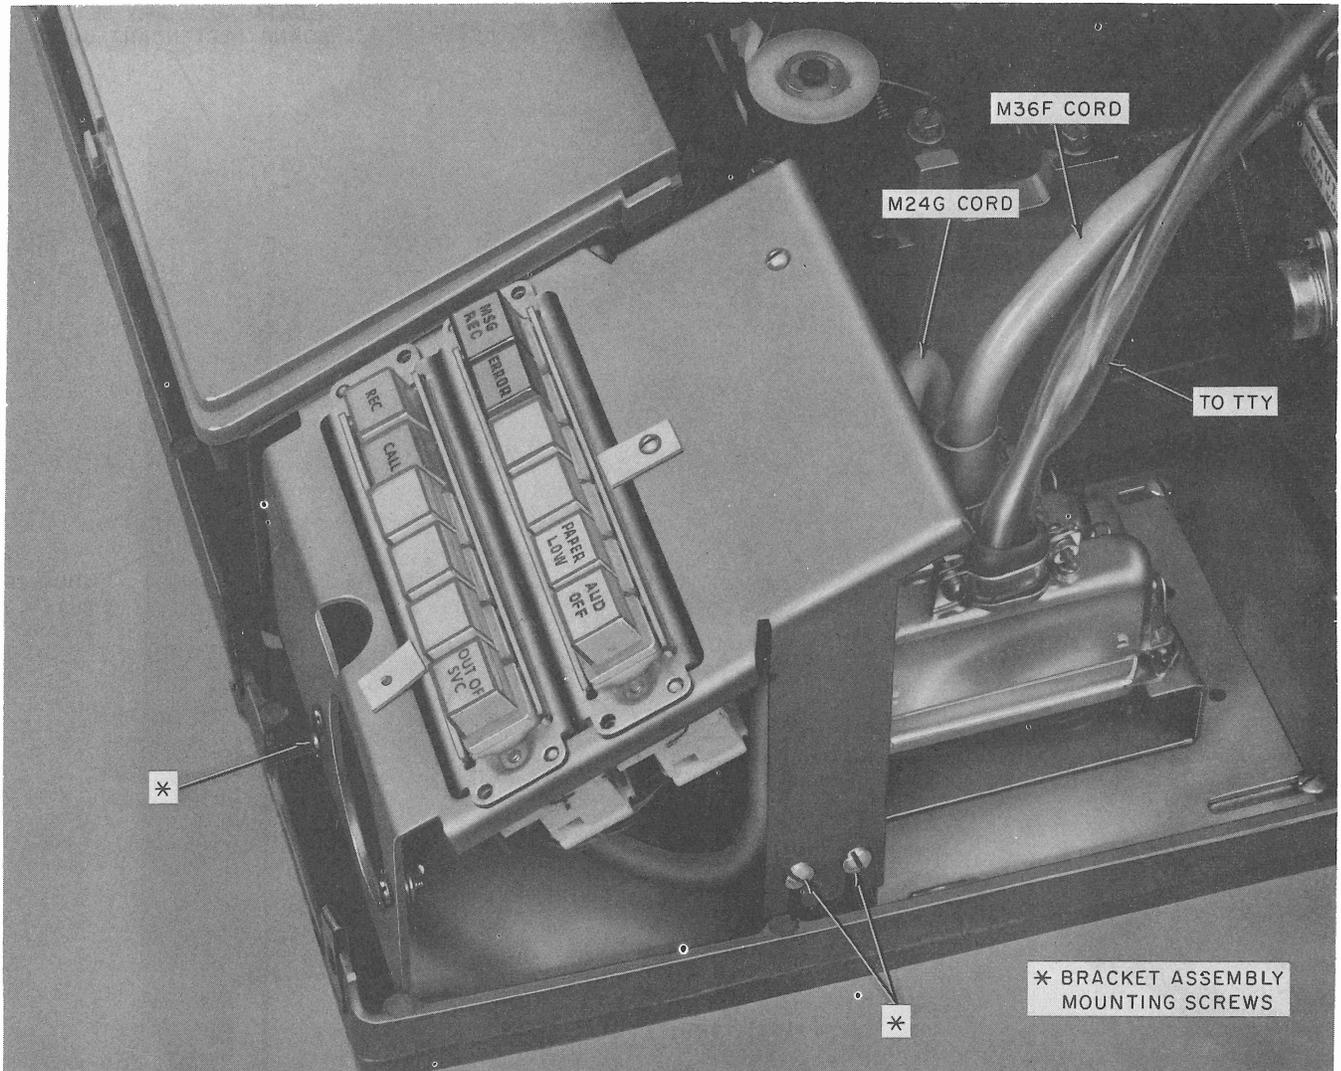

Fig. 8—33 RO TTY Data Station—Data Auxiliary Set 804N2
- (1) Perform 2.01 (1) through (8).
- (2) Remove the attendant set by removing the four screws on the mounting plate (Fig. 8).
- (3) Move the attendant set to the right to gain access to the two left bracket assembly mounting screws.
- (4) Loosen, but do not remove, five bracket assembly mounting screws on the attendant set (Fig. 8).
- (5) Disconnect the plug on the M24G cord (part of the 804N2 attendant set) from the connector at the rear of the attendant set.
- (6) Remove the mounting bracket, key and lamp assembly, and loudspeaker by lifting vertically.